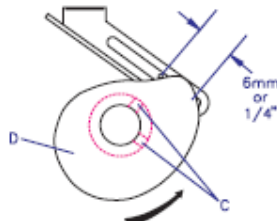
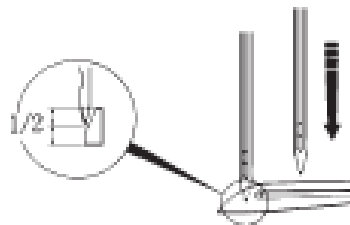

Fig. 22
Fig. 24
Set position of looper thread take-up so that thread begins pull off as looper starts to descend to the right from far left position. At this setting, the thread cam will have approximately 6.4mm or 1/4" pull off showing at the above Take-up position. See figure 22.
2) On the return way of Looper to right, when the point of left Needle reaches approximately the center line of blade of Looper (Fig. 24), the looper thread should be adjusted to come off the highest place of Looper Thread Take-Up (D) (Fig. 22). This adjustment is made by loosening Screw (C) and moving the Take-Up (D).
2) En el camino de vuelta del Engazador hacia la derecha, cuando la punta de la Aguja izquierda alcanza aproximadamente la línea del centro de la hoja del Engazador (Fig. 24), el hilo del Engazador debe ser ajustado para soltarse a lo más alto del Tira hilos del Engazador (D) (Fig. 22) Este ajuste se hace aflojando el Tornillo (C) y moviendo el Tira hilos (D).